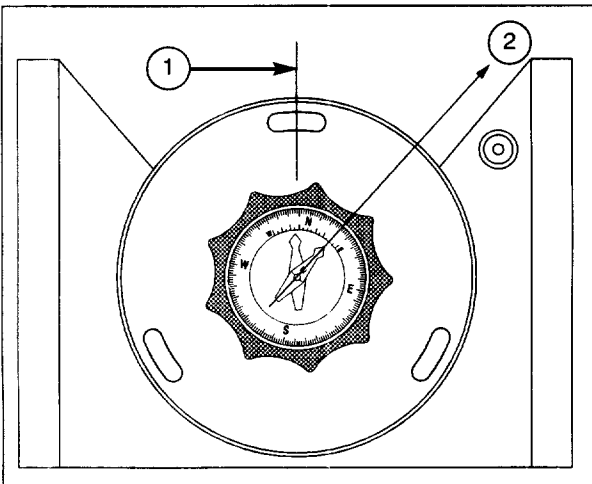

Fig. 6: Superwedge. (1) Centerline of Wedge; (2) Magnetic North.
- a. Slightly loosen the knob/compass and the three buttonhead screws in the wedge floor to allow for rotation of the Superwedge under the knob/compass. The magnetic pointing arrow will point to magnetic north (2, Fig. 6).